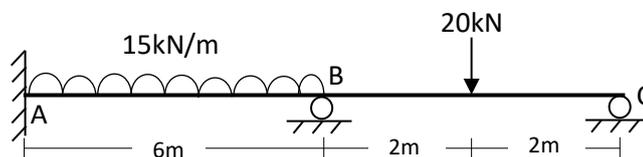

Fig.5
- 16 a) Analyse the continuous beam shown in Fig.5 using moment distribution method. (14)